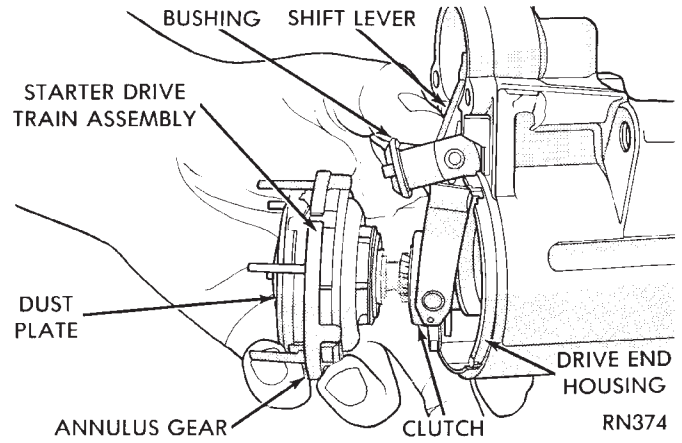

Fig. 21 Starter Drive Gear Train
- (4) Pull the gear and clutch assembly from the drive end housing (Fig. 21).
- (5) For installation, reverse above procedures.